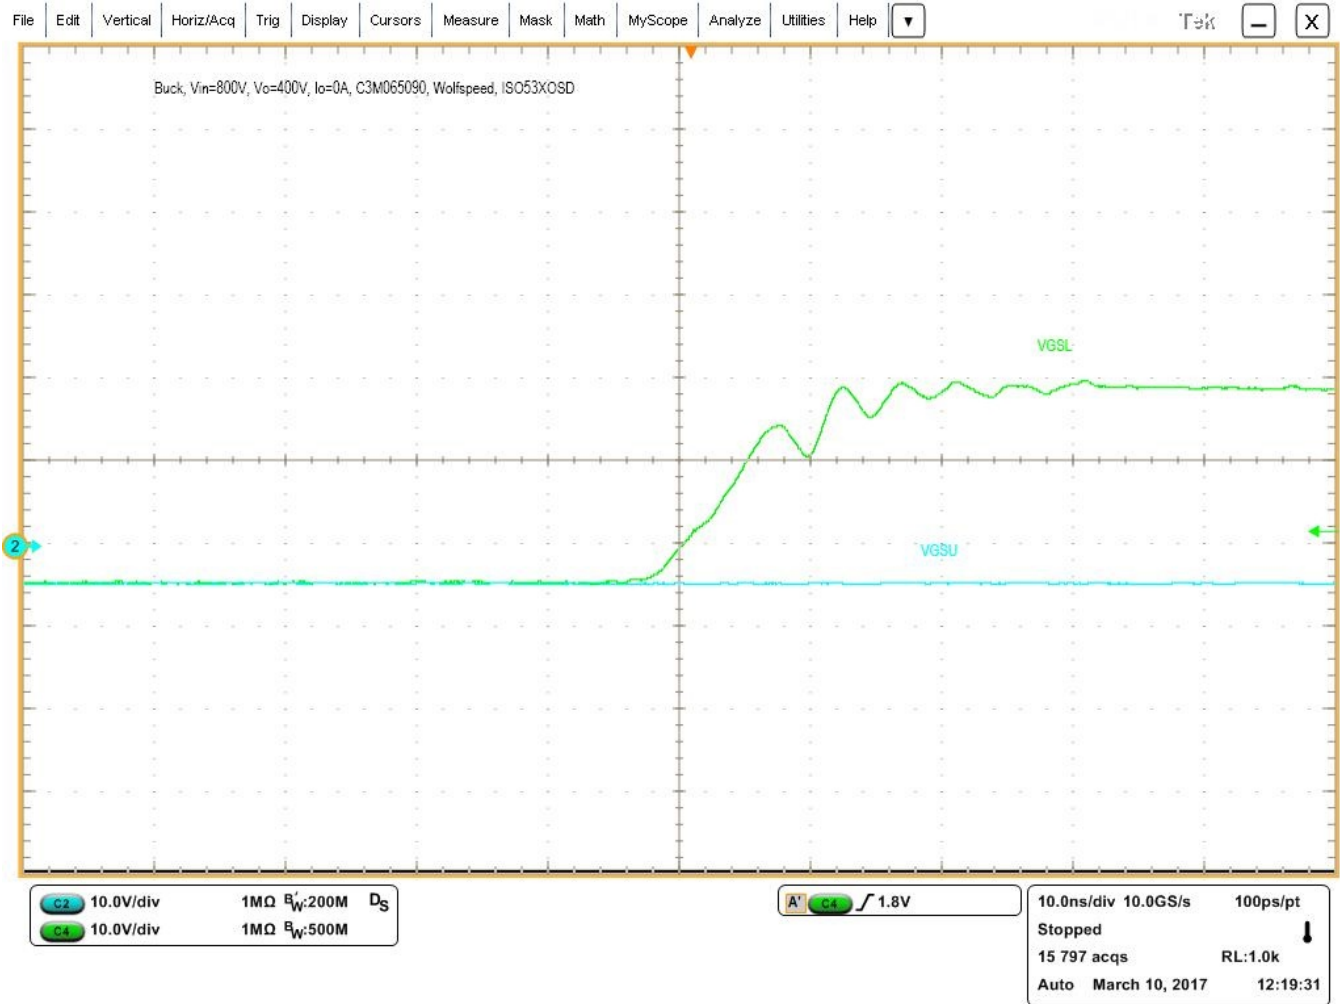
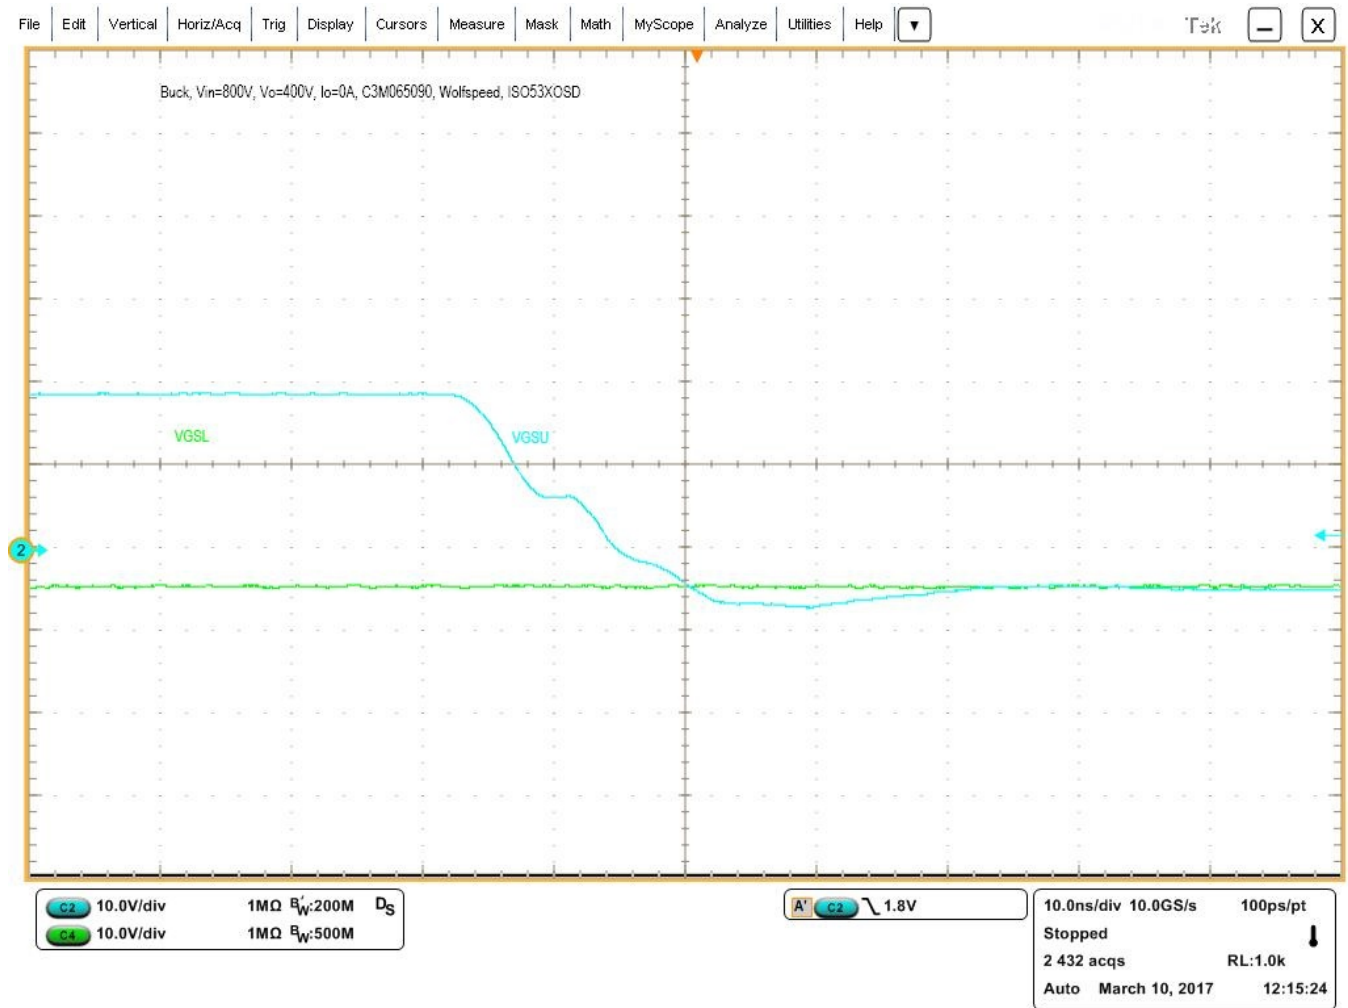

Figure 7. Expanded Gate-Source Drive Voltage Rise Time
Figure 8. Expanded Gate-Source Drive Voltage Fall Time
1. Expand the horizontal scale of oscilloscope from 2 $\mu\text{s}/\text{div}$ to 10 ns/div, and verify rise and fall time of the driver board indicating high output current capability of UCC5390SCD driver ICs (Figure 7 and Figure 8).